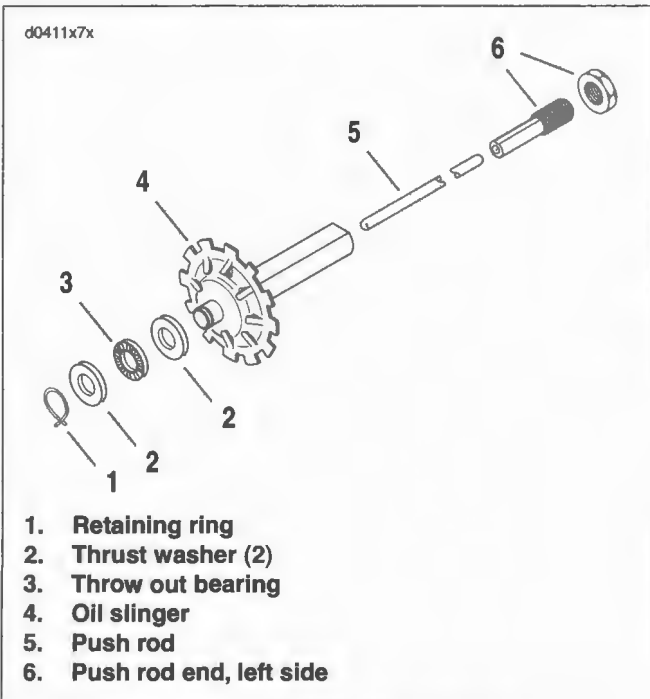

Figure 7-11. Push Rod Assembly
7. See Figure 7-11. Remove oil slinger assembly from mainshaft.
- See Figure 7-11. Remove the push rod (5) from the hole in the mainshaft.